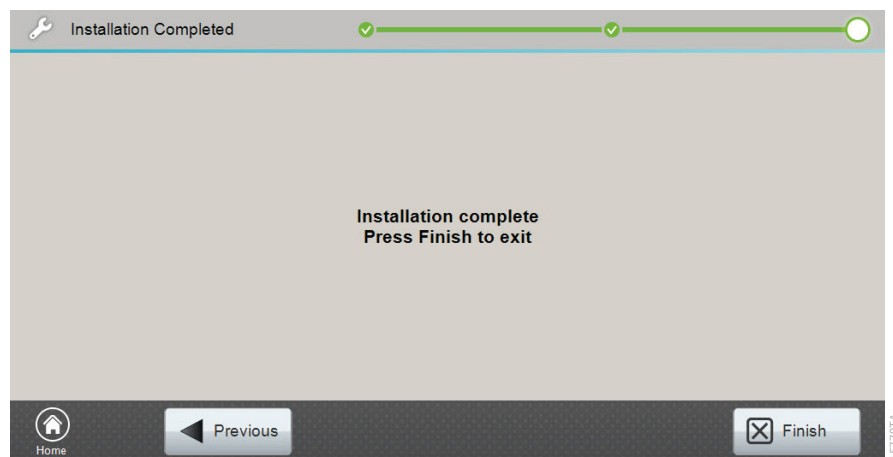

Figure 19. 'Installation Completed' screen.
12. Select **Finish** on the 'Installation Completed' screen (Figure 19).
14. Select **Finish** on the 'Installation Completed' screen (Figure 19).
11. Select **Finish** on the 'Installation Completed' screen (Figure 19).